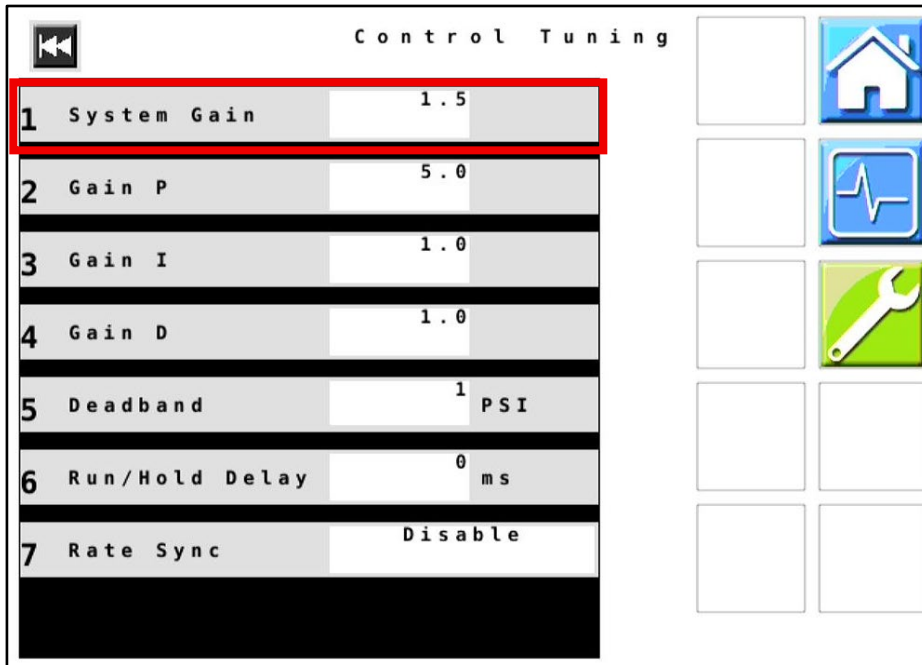

Figure 14 — Control Tuning
30. **Figure 14:** Verify that all values displayed on your unit match those shown here. Change values if necessary.